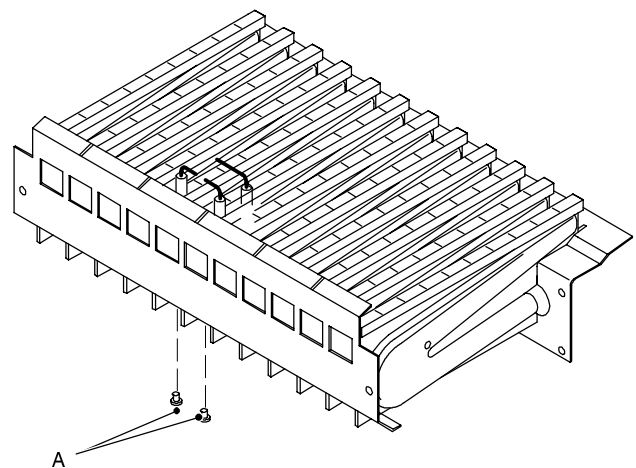

Fig. 76
- 5 Unscrew the screws A (Fig. 76) which hold the electrodes to the burner.